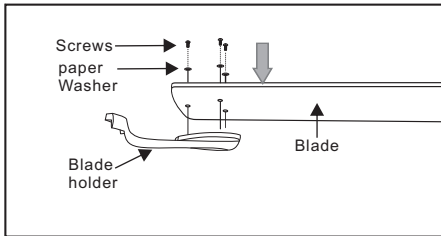

Figure 15
1. Attach the blades to the blade holders using three screws and paper washer as shown in Figure 15. Start a screw into the blade holder, do not tighten. Repeat for the 2 remaining screws and washers.